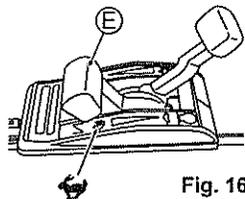

Fig. 16.
- 2 Set Throttle lever (E) to "🏠" to start mowing. (See Fig. 16.)